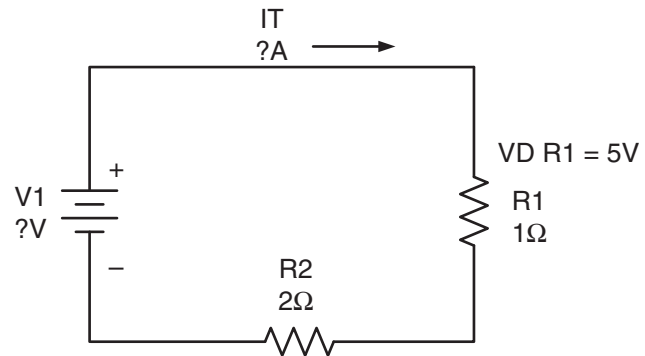

Figure 2-62
18. Referring to **Figure 2-62**, the voltage dropped across R1 is 5V. The source voltage V1 and total circuit current IT is unknown. Find the following (hint: find current flow through R1 first):